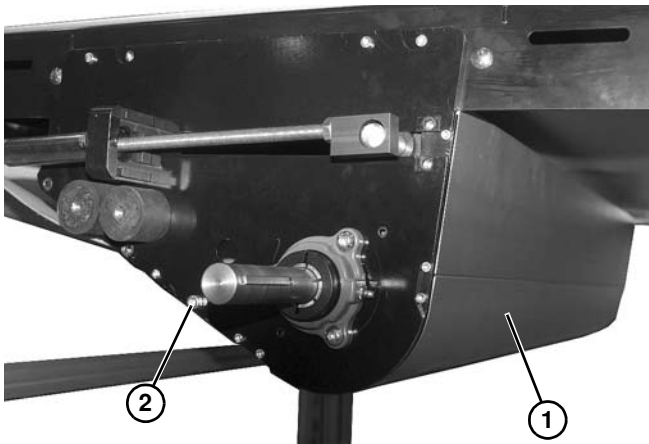
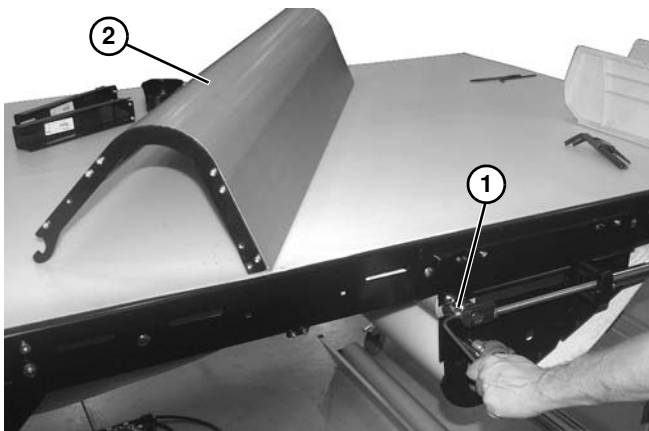

Figure 77
Figure 78
8. Temporarily support the tensioning roller guard (**Figure 77, item 1**). Remove screw (**Figure 77, item 2**) on each side of center drive and remove tensioning roller guard (**Figure 77, item 1**) and (**Figure 78, item 2**).
9. Loosen tensioning roller set screws (**Figure 78, item 1**).